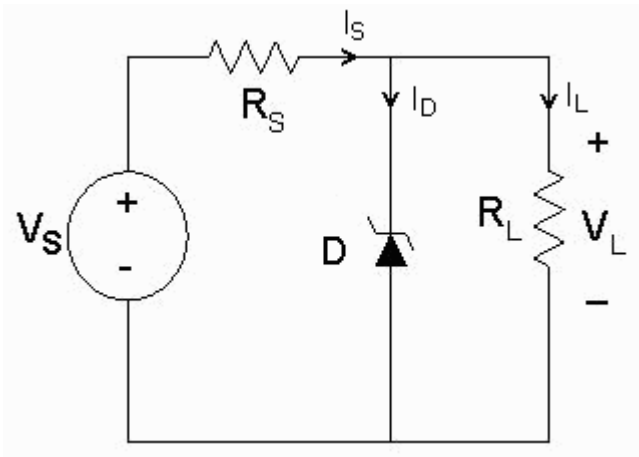

Figure 3 Zener Regulator
4. Build the circuit in Figure 3 on the A&D board using $V_S = 9V$, $R_S = 56\Omega$, and the Zener diode. Use the multimeter to measure V_O and vary the load resistor. Calculate the values for I_L , I_S , I_D , and P_D